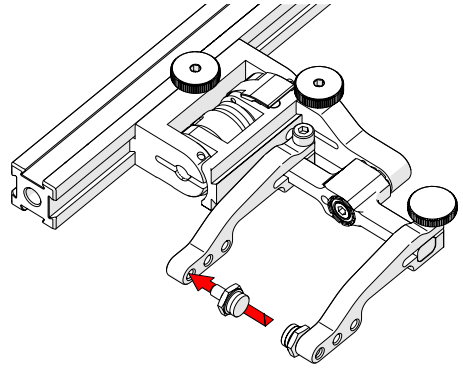

Fig. 149 - Place pivot buttons
4. Using the supplied 3/8 in wrench (Fig. 69), place the pivot buttons (Fig. 149) farthest from the yoke for maximum wedge clearance.